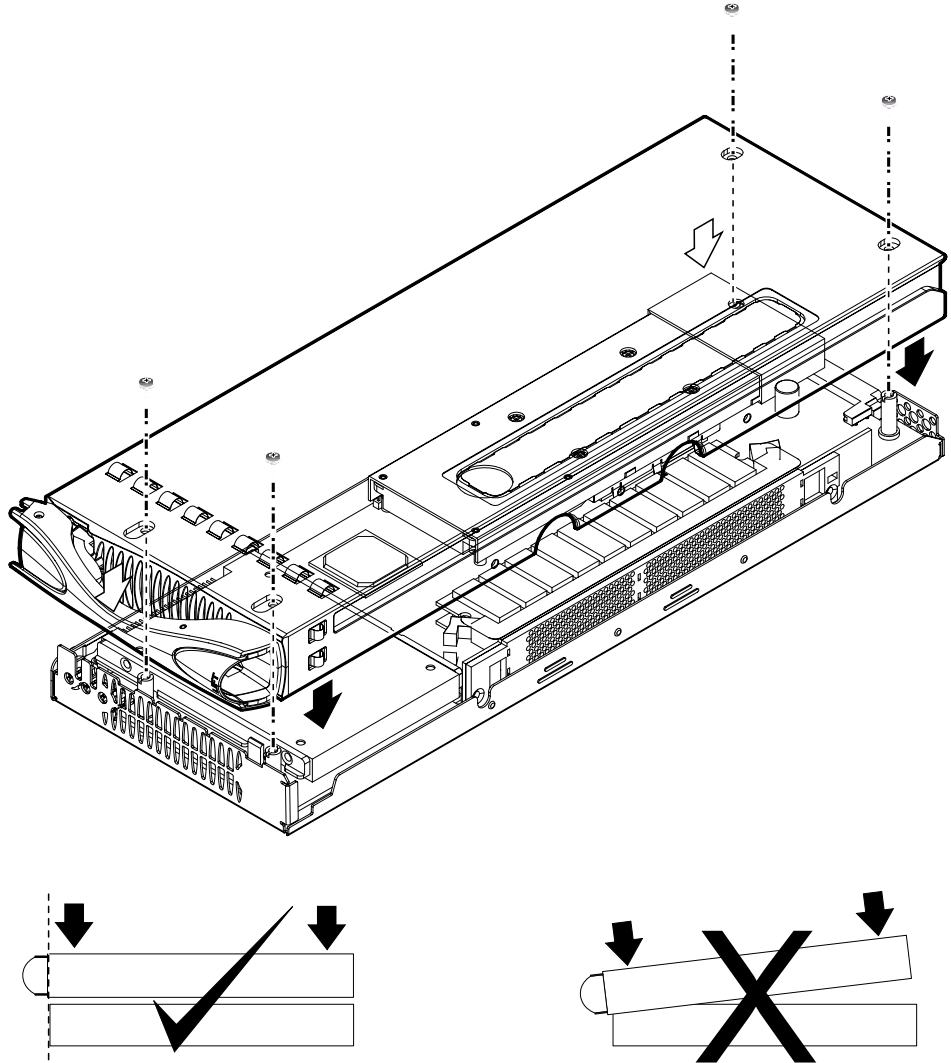

FIGURE 5 Lowering the Blade Cover on to The Blade Enclosure
4. Lower the blade cover on to the blade (FIGURE 5).